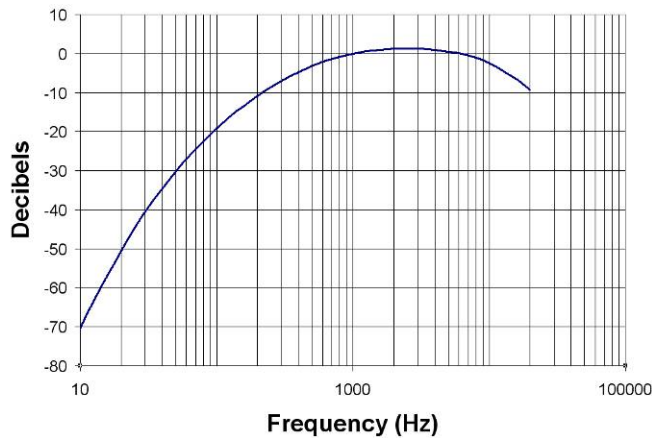

Figure 1. Sound Meter "A" Weighted Network Model Aircraft to be Tested
A. The frequency response of the "A" weighted scale is equal to the human ear audio response with an undistorted sine wave; no harmonics. See Figure 1 for a typical frequency response of the "A" weighted scale.